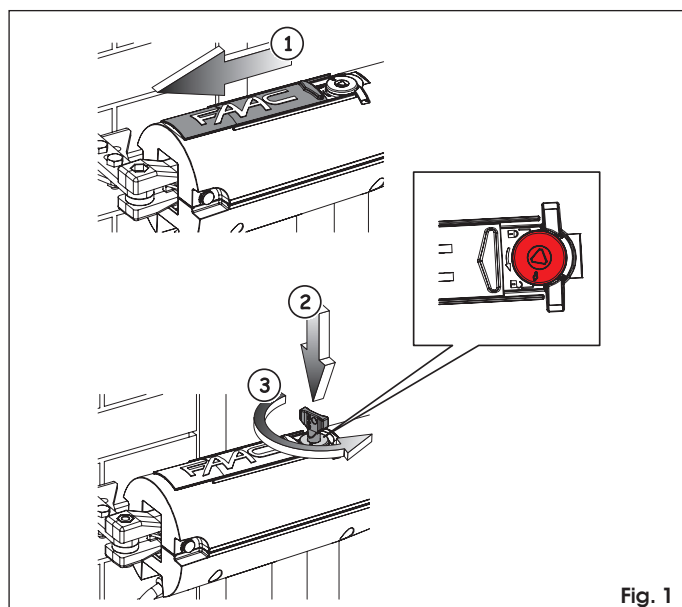

Fig. 1
2. Slide off the protective cap, figure 1 ref. ①.
3. Insert the release key supplied, figure 1 ref. ②, and turn it anticlockwise until it stops, figure 1 ref. ③. The release position is indicated by an open padlock.